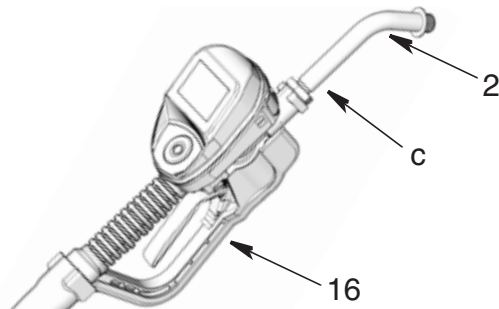

FIG. 8
1. Adjust nut (c) on extension (2) so that the maximum thread engagement of the extension can be utilized (FIG. 8).
2. Thread extension (2) into housing until it bottoms out (FIG. 8).
3. Align extension (2) with metered dispense valve housing and handle (16) (FIG. 8).
4. Firmly tighten nut (c) (FIG. 8).